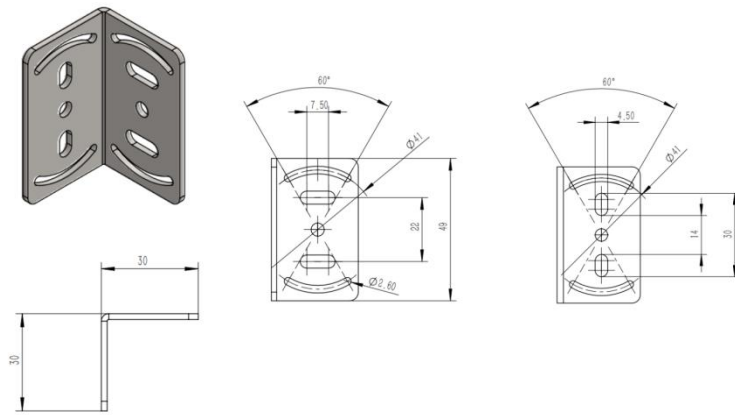
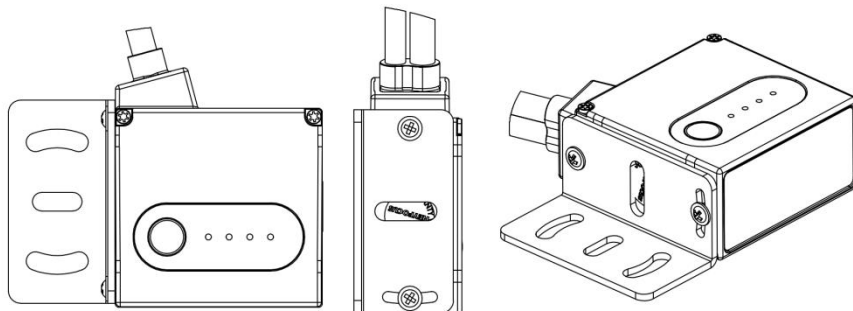

Fig2. BA (/ BC) 50 Installation bracket size (mm)
Fig4. Schematic diagram of the stent installation
2. For bracket mounting, attach the reader to the holder for details Fig 2-Fig 4.